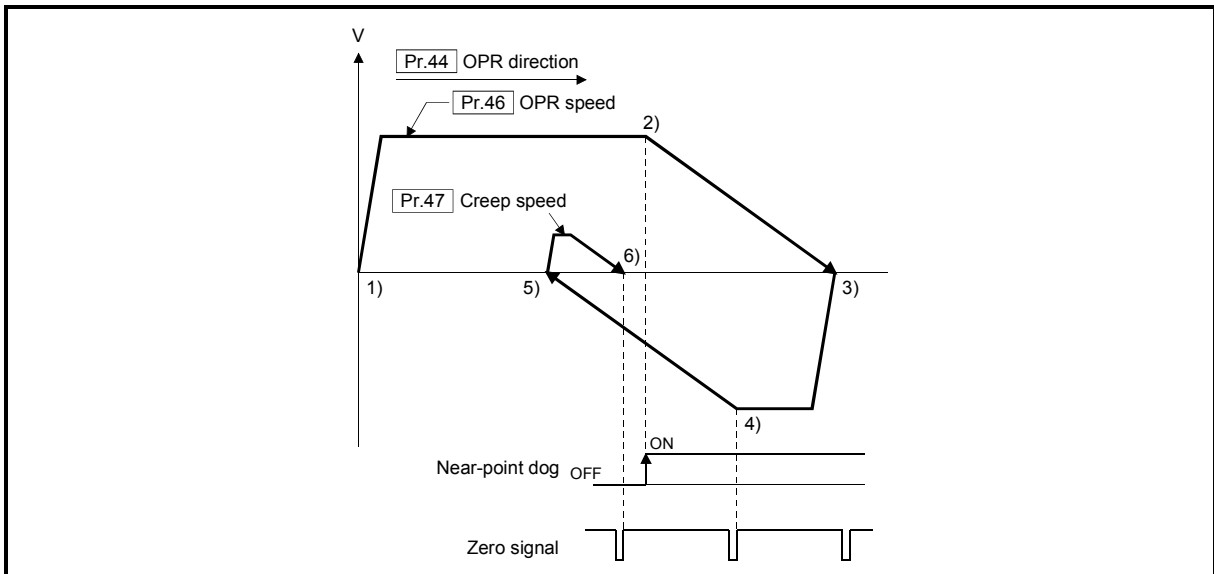

Fig. 8.12 Operation when the zero signal is detected again during deceleration with detection of zero signal
- (3) When the stop signal stops the machine OPR, carry out the machine OPR again. When restart command is turned ON after the stop signal stops the OPR, the error "OPR restart not possible" (error code: 209) will occur.
- (4) The OPR retry will not be performed regardless of setting set in "[Pr.48] OPR retry" in the scale origin signal detection method. When a hardware limit switch is detected during machine OPR, the error "Hardware stroke limit (+)" (error code: 104) or "Hardware stroke limit (-)" (error code: 105) will occur.
- (5) Position the near-point dog forward to overlaps with the hardware limit switch in direction of OPR. When the near-point dog is in the opposite direction against of OPR from the machine OPR start position, the error "Hardware stroke limit (+)" (error code: 104) or "Hardware stroke limit (-)" (error code: 105) will occur.
- (6) When the zero signal is detected again during deceleration (4) of Fig. 8.12) with detection of zero signal, the operation stops at the zero signal detected lastly to complete the OPR.